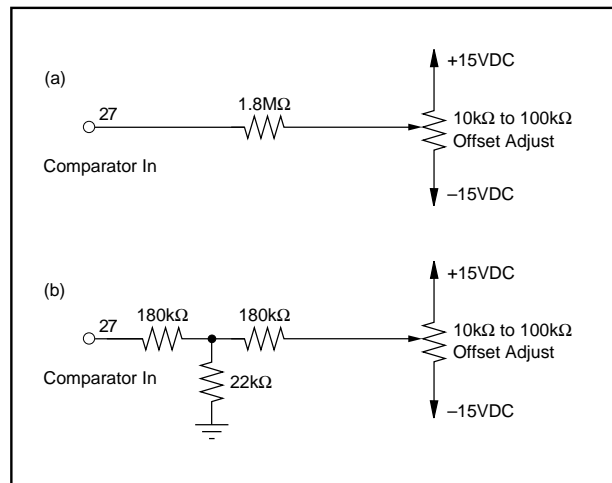

FIGURE 6. Two Methods of Connecting Optional Offset Adjust with a 0.4% of FSR of Adjustment.
Initial Gain and Offset errors are factory-trimmed to typically  $\pm 0.1\%$  of FSR (typically  $\pm 0.05\%$  for unipolar offset) at  $25^\circ\text{C}$ . These errors may be trimmed to zero by connecting external trim potentiometers as shown in Figures 6 and 7.
Gain and Offset errors may be trimmed to zero using external gain and offset trim potentiometers connected to the ADC as shown in Figure 6 and 7. Multiturn potentiometers with 100ppm/°C or better TCRs are recommended for minimum drift over temperature and time. These pots may be any value from 10kΩ to 100kΩ. All resistors should be 20% carbon or better. Pin 29 (Gain Adjust) and Pin 27 (Offset Adjust) may be left open if no external adjustment is required.
**OFFSET** — Connect the Offset potentiometer (make sure  $R_1$  is as close to pin 27 as possible) as shown in Figure 6. Sweep the input through the end point transition voltage that should cause an output transition to all bits Off ( $E_{IN}$ ).